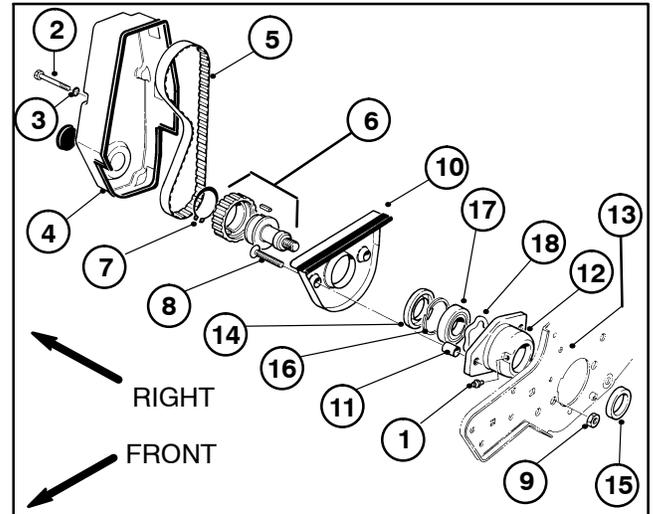
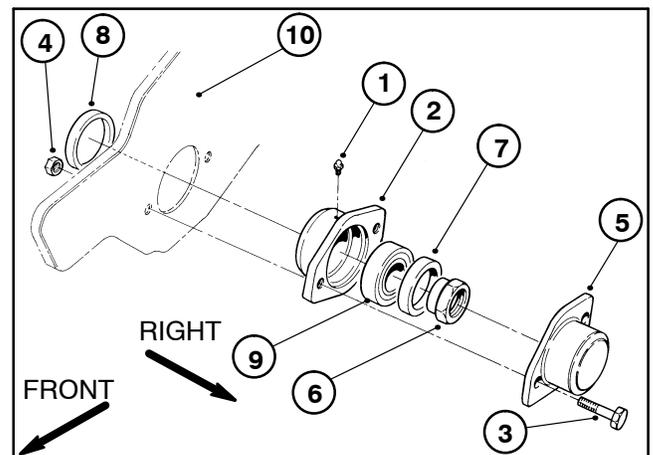

Figure 39
Figure 40
4. Remove four cap screws, four lock washers, and reel drive cover from the mower. Mark bearing housing (RH) for reassembly purposes (Fig. 39).
6. Remove the pulley and drive assembly (Fig. 39) and the bearing lock nut (Fig. 40) from the reel drive shaft as follows:
7. Use an allen wrench and remove both flat head screws, groomer arm cover, and both cover standoffs from the bearing housing (Fig. 39).
8. Remove both cap screws, lock nuts, and bearing cover from the bearing housing (LH) (Fig. 40).
9. Remove grease fittings from both bearing housings (Fig. 39 and 40).
10. Pull both bearing housings from the frame and reel (Fig. 39 and 40). Remove the reel from the mower.
A. Remove large seal, small seal, and bearing from the bearing housing (Fig. 40).
B. Remove bearing seal, retaining ring, bearing, and wave washer from the bearing housing. Discard wave washer (Fig. 39).
2. Reassemble bearing housing (LH) components (Fig. 40).
3. Reassemble bearing housing (RH) components (Fig. 39).
A. Bearing housing (RH) should be marked from disassembly.
5. Attach bearing housing (RH) through the frame onto the reel shaft (Fig. 39).
6. Attach bearing housing (LH) through the frame onto the reel shaft (Fig. 40).
7. Install the pulley and drive assembly (Fig. 39) and the bearing lock nut (Fig. 40) to the reel shaft as follows:
8. Tighten flat head screws and nuts securing the bearing housing (RH) to the frame (Fig. 39).
9. Remove both cap screws and lock nuts holding the bearing housing (LH) to the frame. Position bearing cover to housing and secure to frame with both cap screws and lock nuts (Fig. 40).
11. Reinstall reel drive cover with four lock washers and cap screws to the mower. Tighten cap screws (Fig. 39).
12. Reinstall grease fittings to both bearing housings. Lubricate both housings with No. 2 multipurpose lithium base grease (Fig. 40 and 39).